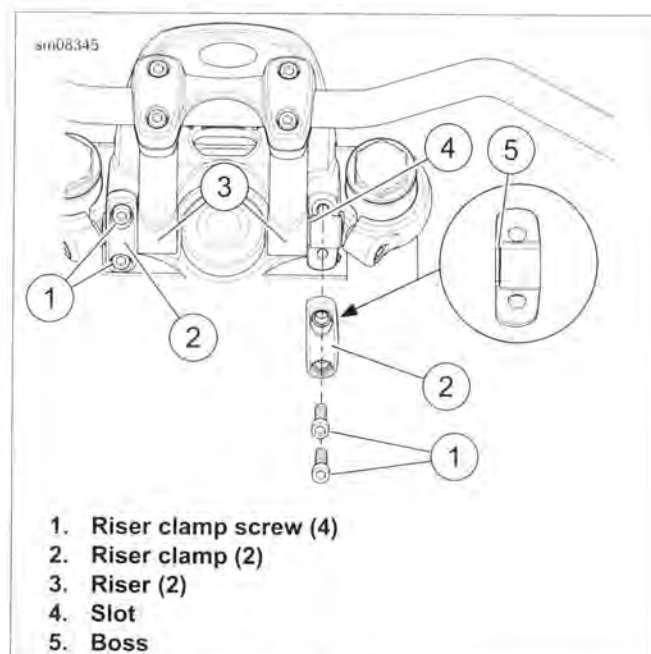

Figure 7-32. Riser Assembly
See Figure 7-32. When installing riser clamps (2), make sure boss (5) is positioned over slot (4).